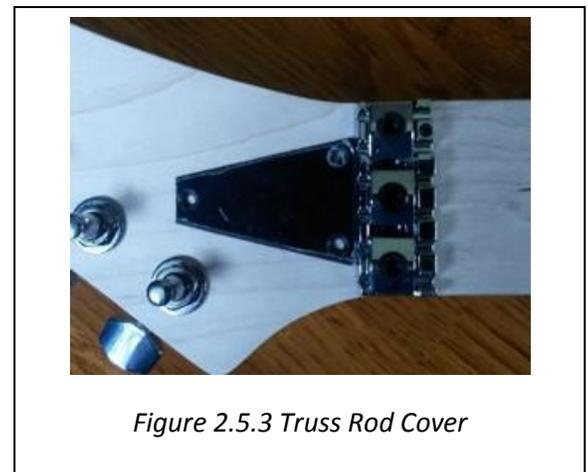

Figure 2.5.3 Truss Rod Cover
1. Center the cover over the Truss Rod adjustment pocket (Figure 2.5.3);